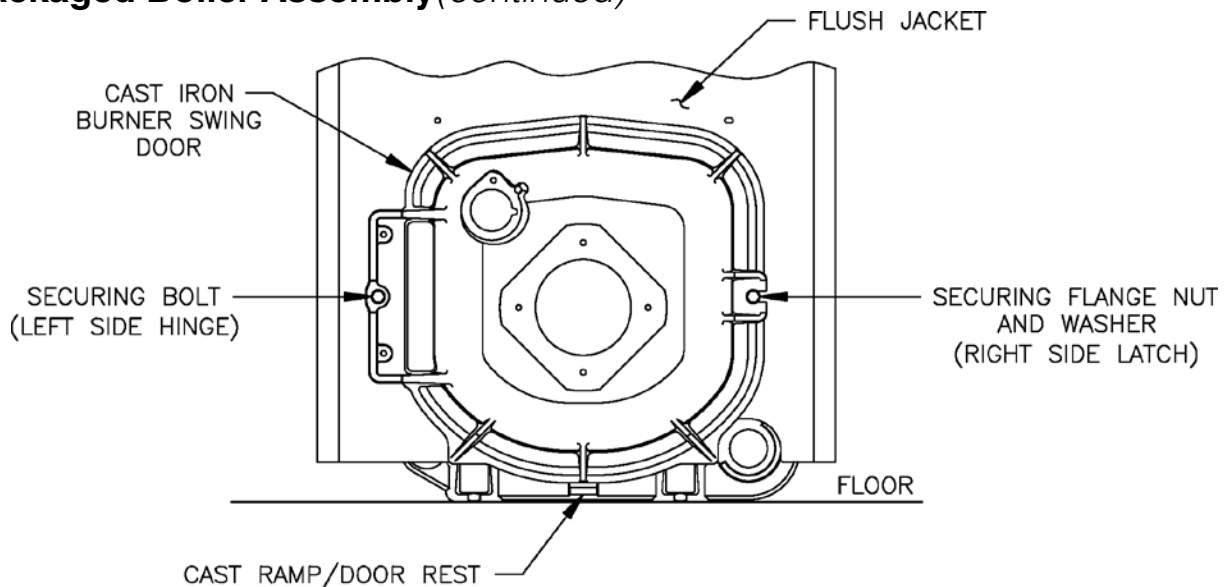

Figure 12A: Partial Front View - Burner Swing Door Mounted to Boiler - Fully Closed and Secured
1. **TO OPEN BURNER SWING DOOR** (see Figures 12A and 12B).
3. To close Burner Swing Door (see Figures 12A and 12B):
Step 2. Grasp the door's left side hinge flange in your left hand and place your right hand under the burner air tube to lift upward. Lift the door up onto the built-in cast ramp/door rest (protruding from the bottom of the front section casting - see Figure 12A), while rotating the articulated hinge and door to the right and engaging the slot (on right side of door) unto the 5/16" stud protruding from the front section.